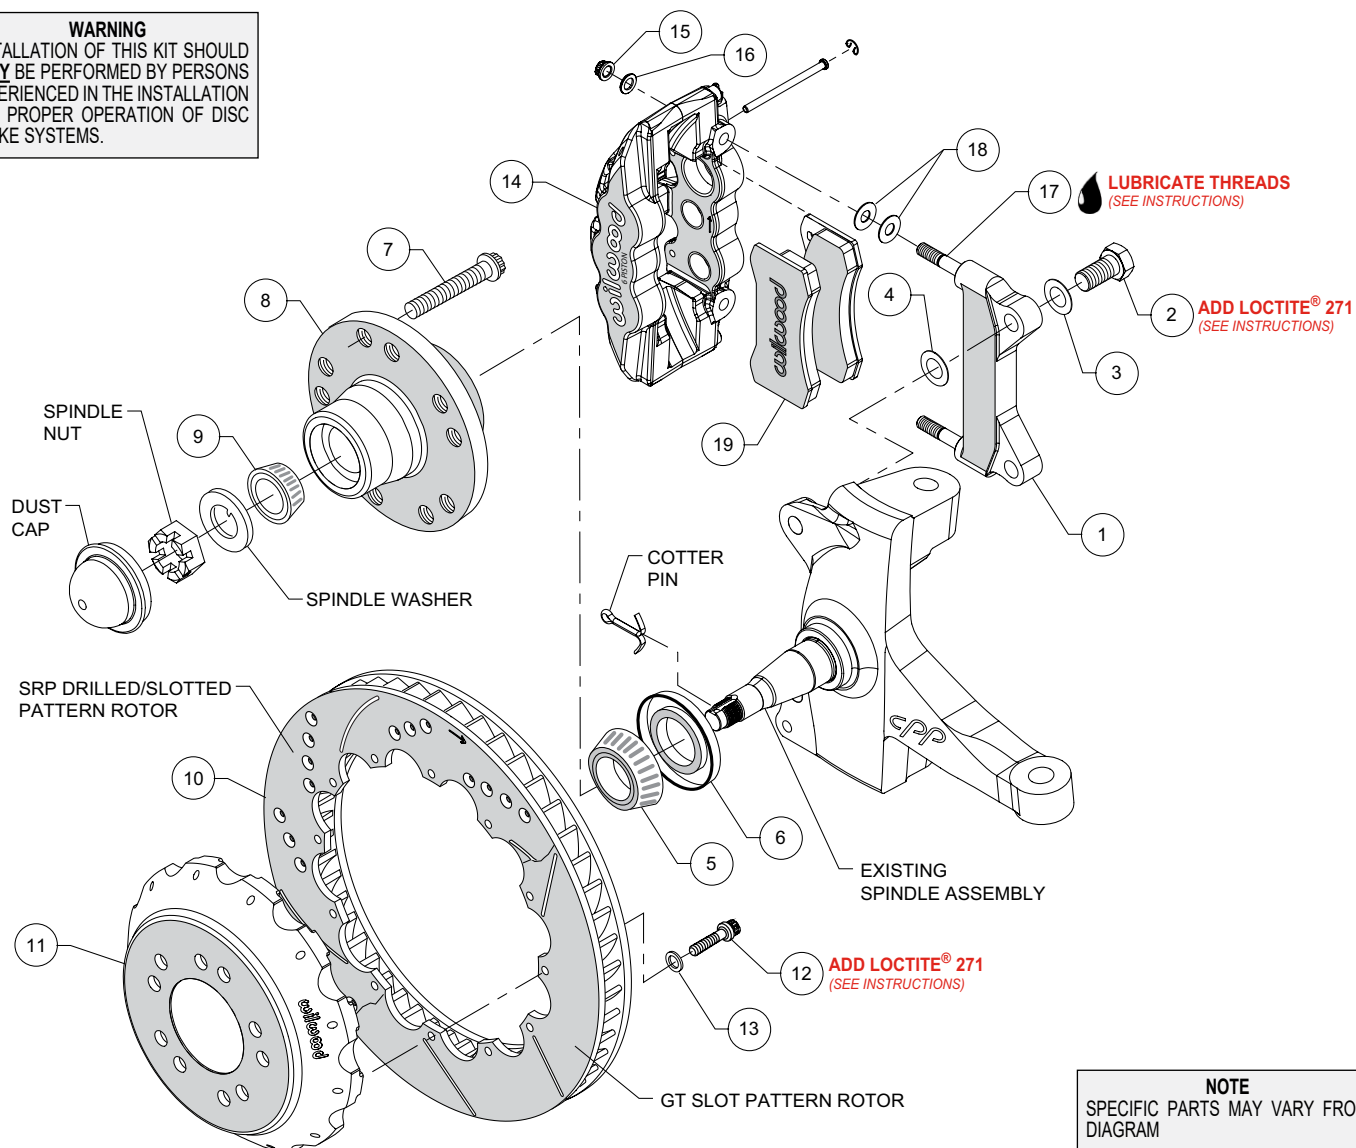
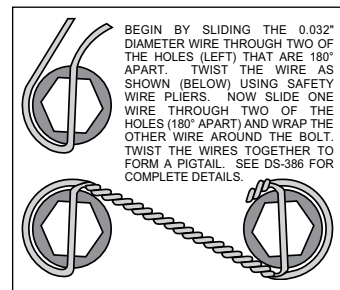

Figure 1. Typical Installation Configuration
Figure 3. Safety Wire Diagram
NOTE: Numbers in parenthesis refer to the parts list and Figure 1 on the preceding pages.
- The caliper mount bracket (1) should initially be installed with clean, dry threads on the mounting bolts. Orient the bracket, as shown in Figure 1, and Photo 1, and install using bolt (2) and washer (3). Initially place one .024" thick shim (4) on each bolt between the bracket and upright, Figure 1. Temporarily tighten the mounting bolts. **NOTE:** The bracket must fit squarely against the mount bosses on the upright. Inspect for interference from casting irregularities, machining ridges, burrs, etc. Later, after the caliper alignment has been checked, the mount bolts will be secured using red *Loctite*® 271.
- Install wheel studs (7) into the hub (8), Photo 2. Torque to 77 ft-lb.
- Pack the large inner bearing cone (5) with high temperature disc brake bearing grease (available from your local auto parts store) and install into the backside of the hub (8), Photo 3.
- Install the grease seal (6) by pressing into the backside of the hub (8), flush with the end of the hub, Photo 4.
- Orient the rotor (10) and the hat (11) as shown in Figure 1 and Photo 5. Attach rotor to hat using bolts (12) and washers (13). Using an alternating sequence, apply red *Loctite*® 271 to the threads, and torque to 155 in-lbs. For an added measure of security, the bolts may be safety wired using standard 0.032 inch diameter stainless steel safety wire as shown in Figure 3. Refer to Wilwood's data sheet DS-386 (available at www.wilwood.com/Pdf/DataSheets/ds386.pdf) for complete safety wire installation instructions.
- Pack the small outer bearing cone (9) with high temperature disc brake bearing grease and install into hub (8). Slide the hub assembly onto the spindle. Secure using spindle washer and spindle nut, Photo 6. Adjust bearings per OEM specifications. Install a new cotter pin.
- Press the dust cap into the hub (8).
- Slide the hat/rotor assembly (10/11) onto the hub (8). **NOTE:** The hat must fit flush against the hub face or excessive rotor run out may result.
- NOTE:** This kit contains distinct right and left hand calipers that must be mounted in a specific direction, as described below. Lubricate the caliper mounting studs (17) with lightweight oil. Initially place two .030" thick shims (18) on each stud as shown in Figure 1 and Photo 7. Mount the caliper (14) onto the bracket
(1) using lock nuts (15) and washers (16), Figure 1. Ensure that the caliper is mounted so that the largest pistons are at the rotor exit end of the caliper, in relation to the direction of rotor rotation. Temporarily tighten the lock nuts and view the rotor through the top opening of the caliper. The rotor should be centered in the caliper, Photo 8. If not, adjust by adding or subtracting shims (4) between the bracket and the upright. Always use the same amount of shims on each of the two mounting bolts. Once the caliper alignment is correct, remove the bracket mounting bolts one at a time, apply red *Loctite*® 271 to the threads, and torque to 120 ft-lbs.
- Remove the two pad retaining pins from the caliper (14) by carefully popping out the pin retaining clips and sliding out the pins. Insert the brake pads (19) into the caliper from the bottom, Figure 1 and Photo 9. With the friction material facing the rotor, secure the brake pads in place with the pad retaining pins and clips, Photo 10. Reinstall the caliper onto the caliper mounting bracket and temporarily tighten the lock nuts. Check that the top of the brake pad is flush with the outside diameter of the rotor, Photo 11. If not, adjust by adding or subtracting shims (18) between the caliper and the bracket. After the caliper pad height is set, torque the caliper lock nuts (15) to 47 ft-lb.